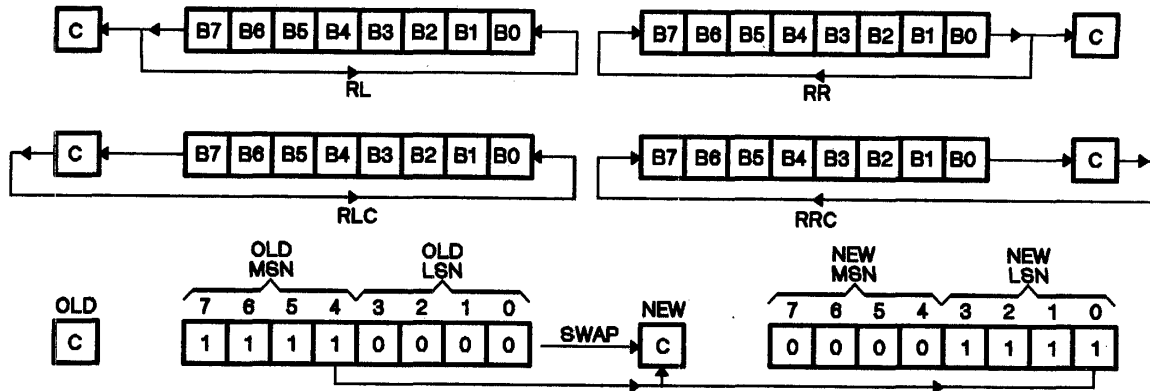

Figure 9-10. Swap and Rotation Operations
Figure 9-10 illustrates the rotation operations performed by the four rotation instructions Rotate Right (RR), Rotate Right Through Carry (RRC), Rotate Left (RL), and Rotate Left Through Carry (RLC), and the SWAP instruction. SWAP executes the equivalent of four consecutive RL instructions, setting the C bit in the Status Register equal to bit 4 of the original operand or bit 0 (LSb) of the result.